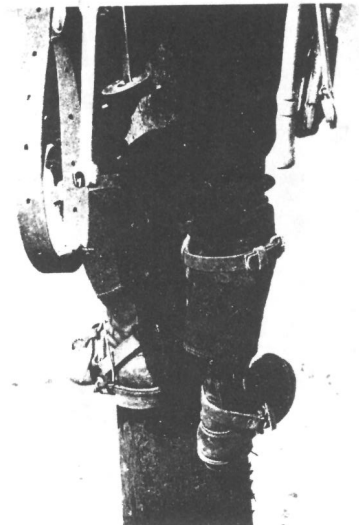

FIGURE 29.
7.01 It is important that all craftsmen use the correct method of going around a pole. Figures 29 through 32 show the correct method to be used when going around a pole to the left.
a. The left (or lead) foot is removed from the pole and moved around to the left. It is set in the pole from 2 to 4 inches higher than the right foot (or following climber). The leg action is an ascending or stroking action toward the center or "heart" of the pole. Keep both hands on the pole while performing this operation. Figure 29 shows the position of the feet at the start of the movement to the left.